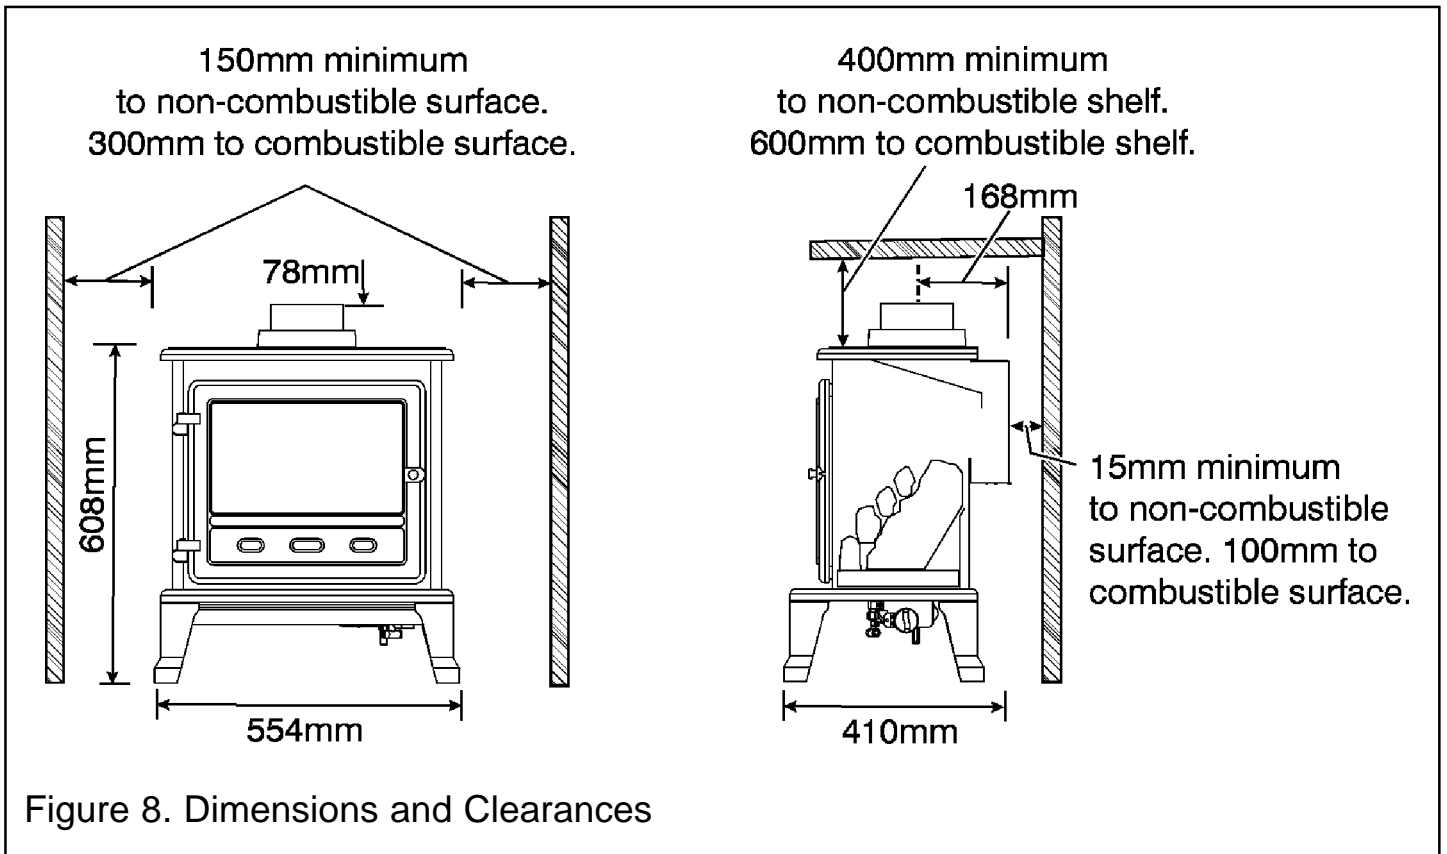

Figure 8. Dimensions and Clearances
- Clearances from combustible and non-combustible materials must be at least those shown in figure 8.